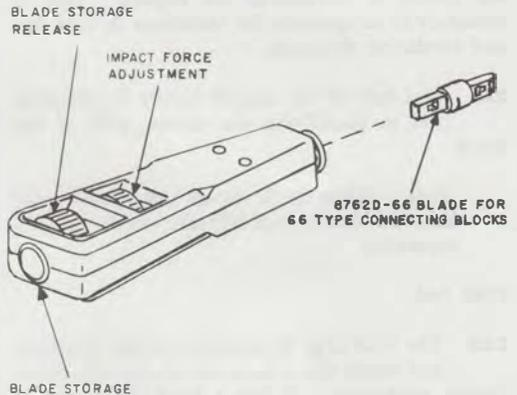
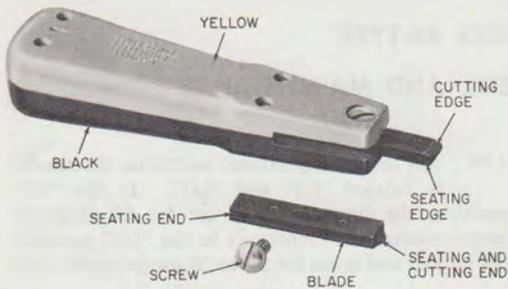
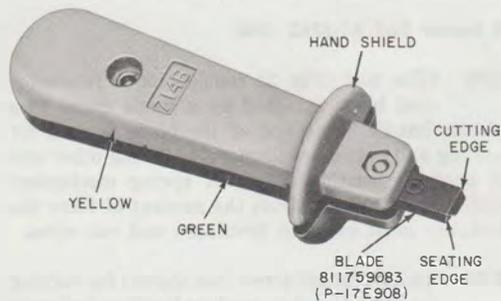

Fig. 1—D Impact Tool
Fig. 2—B Impact Tool (MD)
Fig. 3—714B Tool
2.01 The D impact tool (Fig. 1), the B impact tool (MD) (Fig. 2), and the 714B tool (Fig. 3) are used to make terminations on 66-type connecting blocks. The D impact tool is recommended for use in installations where numerous cutdowns are required. The 714B is intended for occasional or intermittent use.
2.02 The D impact tool (Fig. 1) consists of a handle with a switchable dual force impact mechanism, a blade release switch, and a cavity for storing a spare blade. The handle is designed to accept three different type blades, one of which is the 8762D-66 blade designed for use with the 66-type connecting block.
2.05 ◆The tool (Fig. 2) consists of a reversible steel blade attached by a single screw to a plastic handle. One end of the blade is used for seating and cutting conductors while the other end is used for seating only. A spring mechanism inside the handle controls the amount of force the installer must exert to terminate and cut wires.
2.08 The 714B (Fig. 3) is similar to the B impact tool except that it does not have an adjustable impact mechanism. It has a hand shield and is yellow and green instead of yellow and black.